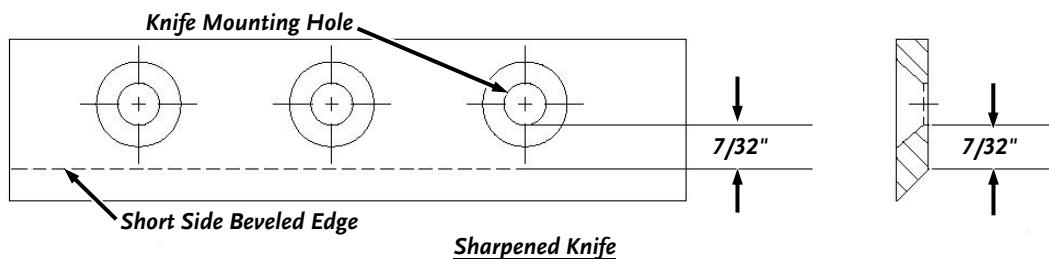

Figure 25
- Once this measurement is below $7/32"$ (**Figure 25**), or if you are unable to remove dents or gouges with these guidelines, replace the Knife.